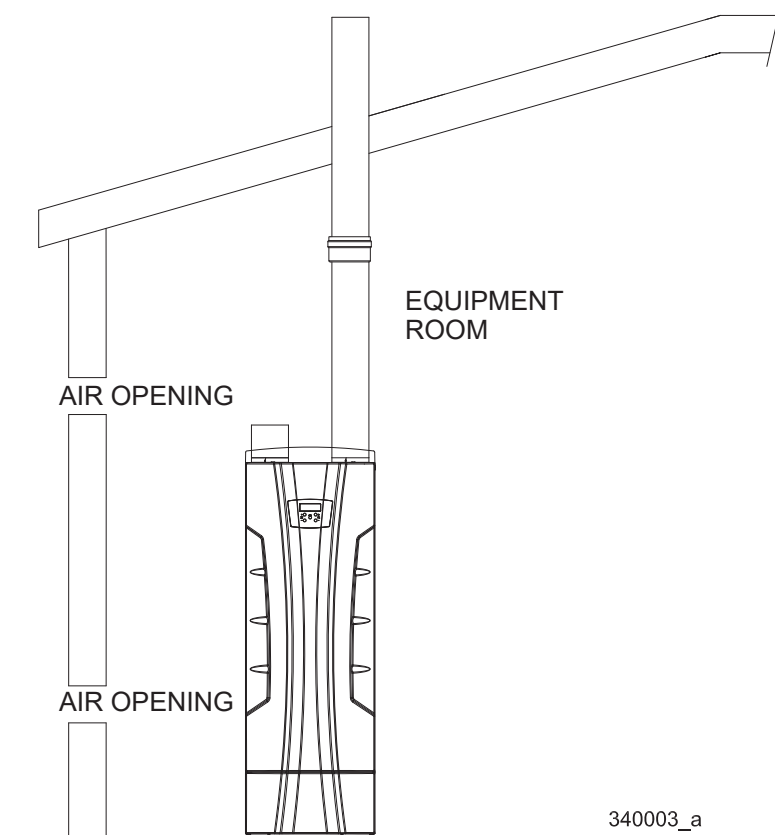

Figure 5-1 Combustion Air direct from outside
1.- If air is taken directly from outside the building with no duct, provide two permanent openings to the equipment room (see Fig. 5-1).